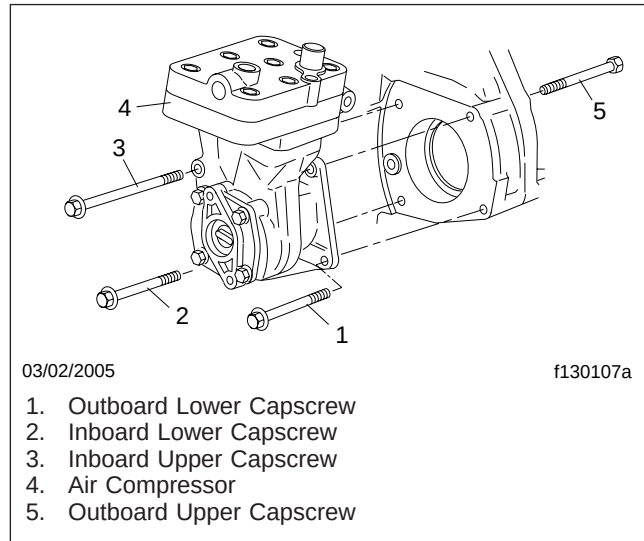

Fig. 4, Air Compressor Removal
12. Remove the four capscrews that attach the air compressor to the engine and remove the compressor. See Fig. 4.